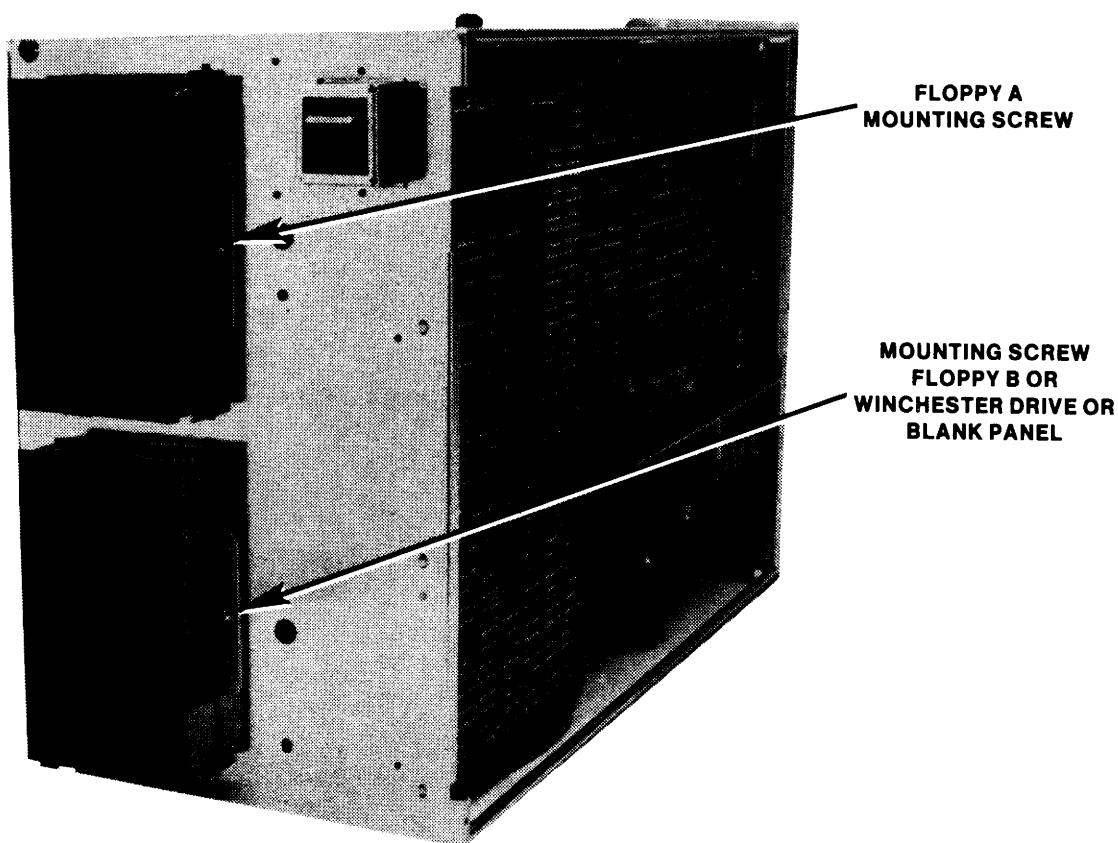

Figure 5-6. Floppy Drive Removal/Replacement Screw Location
- 2) With the Electronics Unit in the vertical position (power supply down) remove the screw securing the floppy drive to be removed in place. See Figure 5-6.